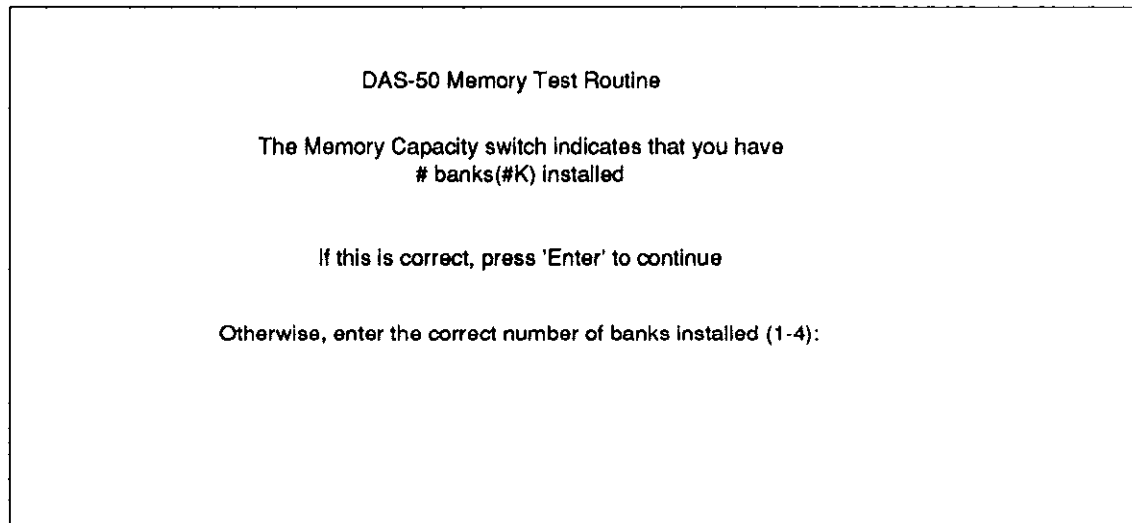

Figure 7-4. Memory Test Screen
7. To begin the memory test procedure, press **2** . The Memory Test screen will appear. (Refer to Figure 7-4.) Enter the appropriate number for the memory bank to be tested. The program will then begin to read and write to the address.